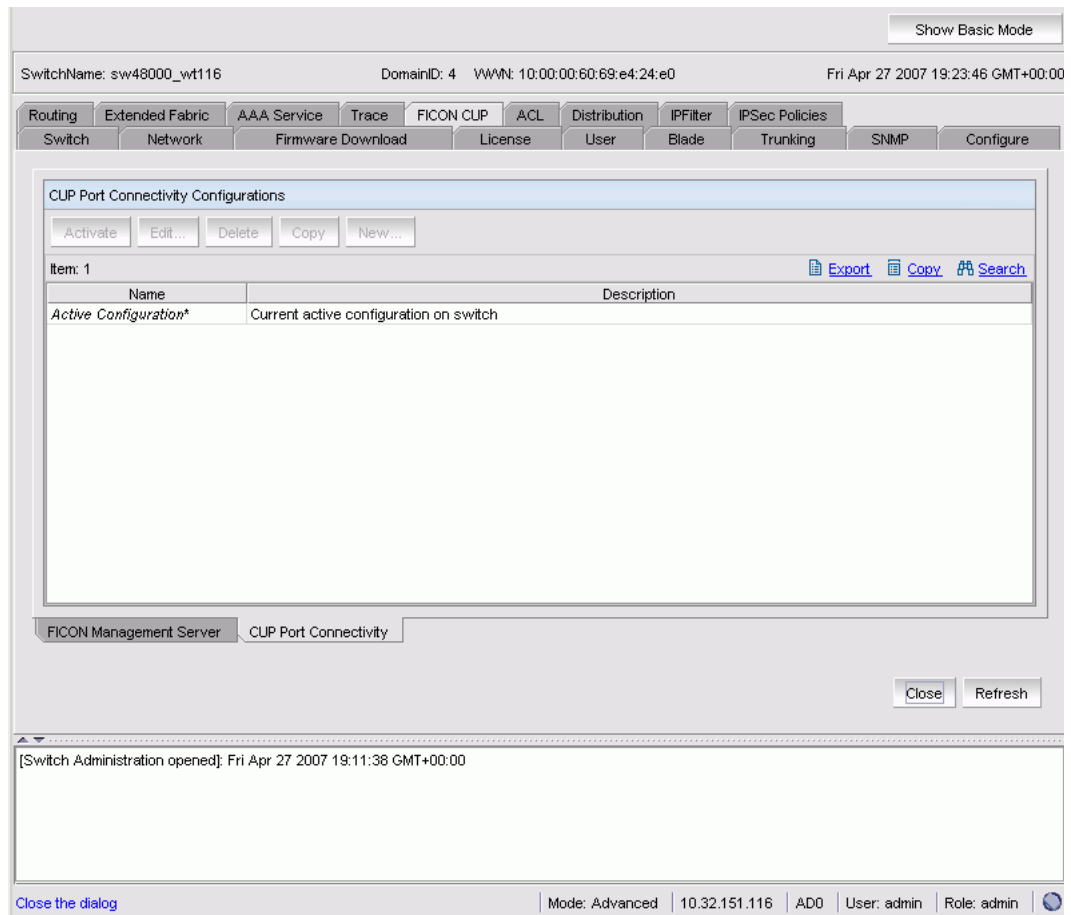

FIGURE 101 Configuring CUP port connectivity
In the Port Connectivity subpanel (shown in Figure 101 on page 226), you can manage the configuration files and active configuration. All CUP configuration files and the active configuration are listed in a table. The active configuration is listed as “Active Configuration*” and the description in the table is “Current active configuration on switch.” The other special configuration file is the IPL. Any other files displayed are user-defined configurations and are stored on the switch.
Use the following procedure to display a list of CUP port connectivity configurations, as shown in Figure 101 on page 226.
- Click the **CUP Port Connectivity** subtab (see Figure 101).